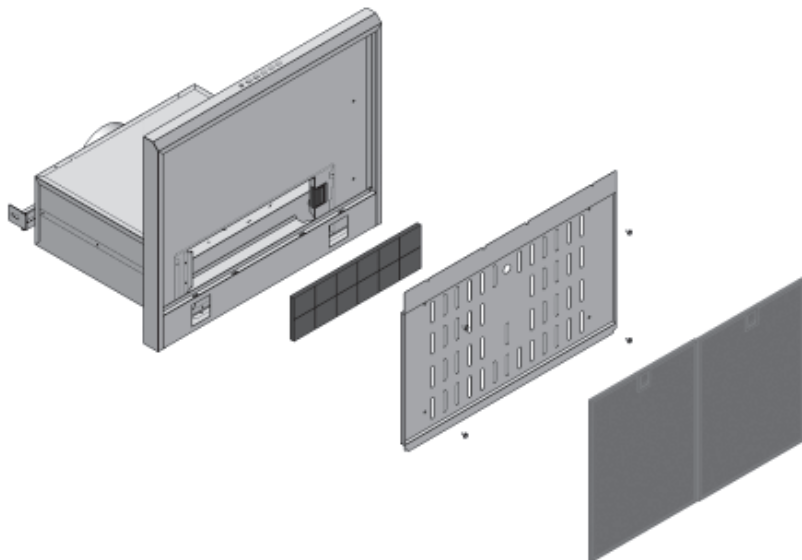

Fig. 4
**2.3 - AKTIVKOHLENFILTER (Abb. 4)
**2.3 - ACTIVATED CARBON FILTERS (Fig. 4)
**2.3 - FILTRES AU CHARBON ACTIF (Fig.4)
2.3 - FILTRI AL CARBONE ATTIVO (Fig.4)
2.3 - FILTRE MED AKTIVT KUL (Fig. 4)
2.3 - KOOLSTOFFILTERS (Fig.4).